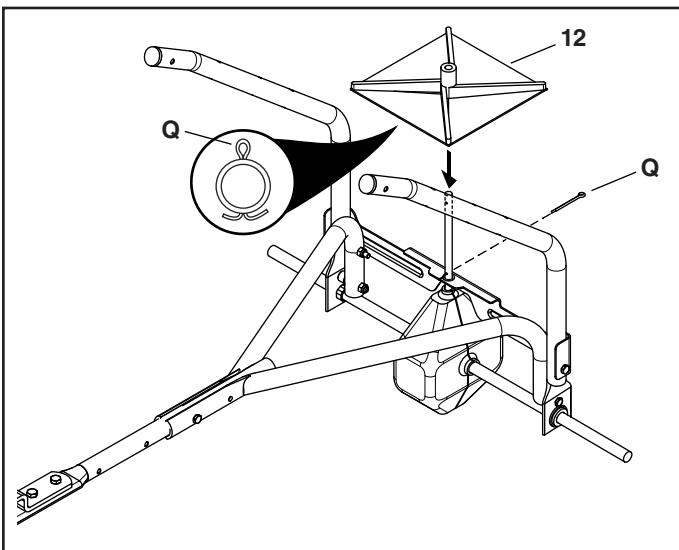

FIGURE 6
STEP 6: (SEE FIGURE 6)
- Slide the spreader impeller (12) onto the spreader shaft and secure it with a 1/8" x 1-1/2" cotter pin (Q).